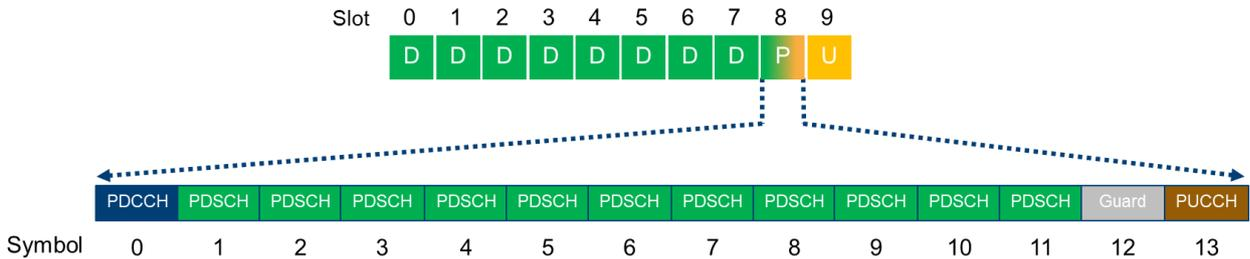

Figure 10 TDD partial slot configuration for maximum downlink throughput
- ▶ In partial slot 8, use 12 DL symbols (symbol 0 is reserved for PDCCH), 1 UL symbol (the last symbol for PUCCH). One symbol (symbol 12) remains unassigned which serves as a guard period. The guard period is necessary for a TDD system to ensure enough switching time from DL to UL transmission. Time domain assignment of partial slot 8 is illustrated in Figure 10 below.
- ▶ Set the last symbol in partial slot 8 for PUCCH, see also Figure 10